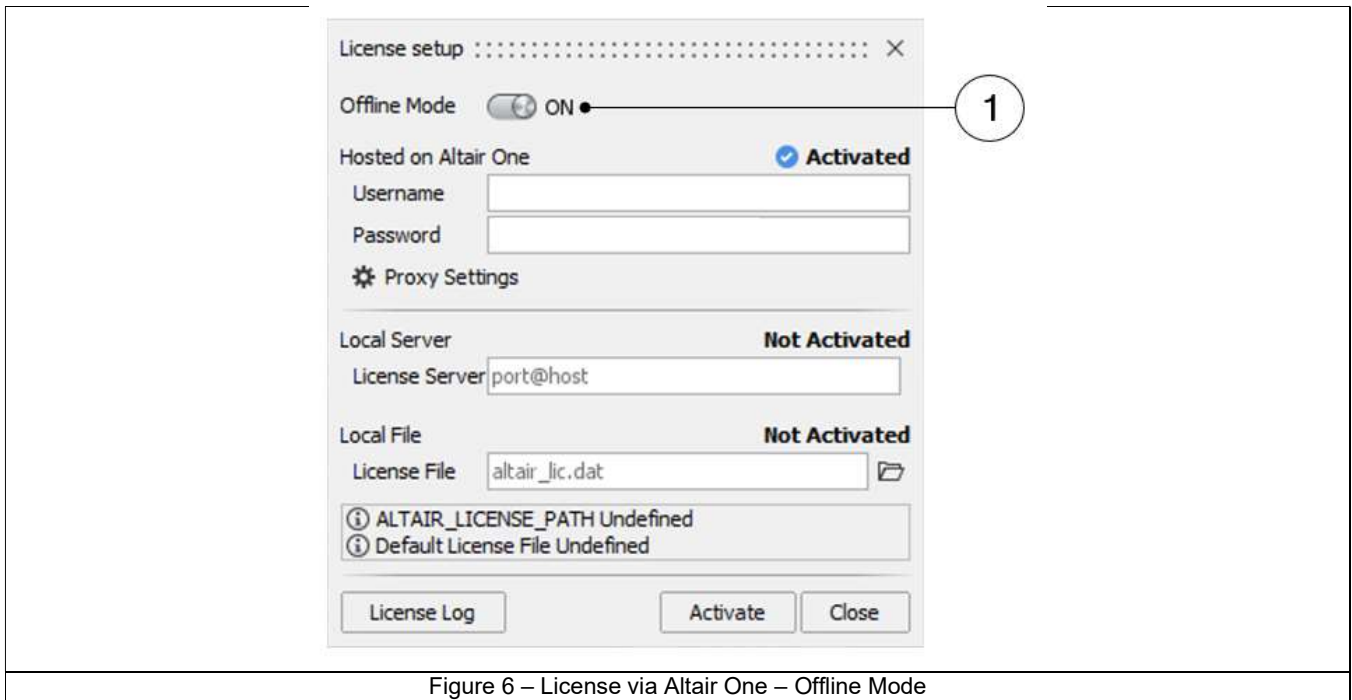

Figure 6 – License via Altair One – Offline Mode
- 3) Click the “Offline Mode” slider (Mark 1 Figure 6 – **License via Altair One – Offline Mode**).